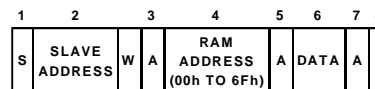

Figure 4b. Single Byte Write To RAM
1. Write a single byte of data to RAM. In this case the command byte is the RAM address from 00h to 6Fh and the (only) data byte is the actual data. This is illustrated in Figure 4b.